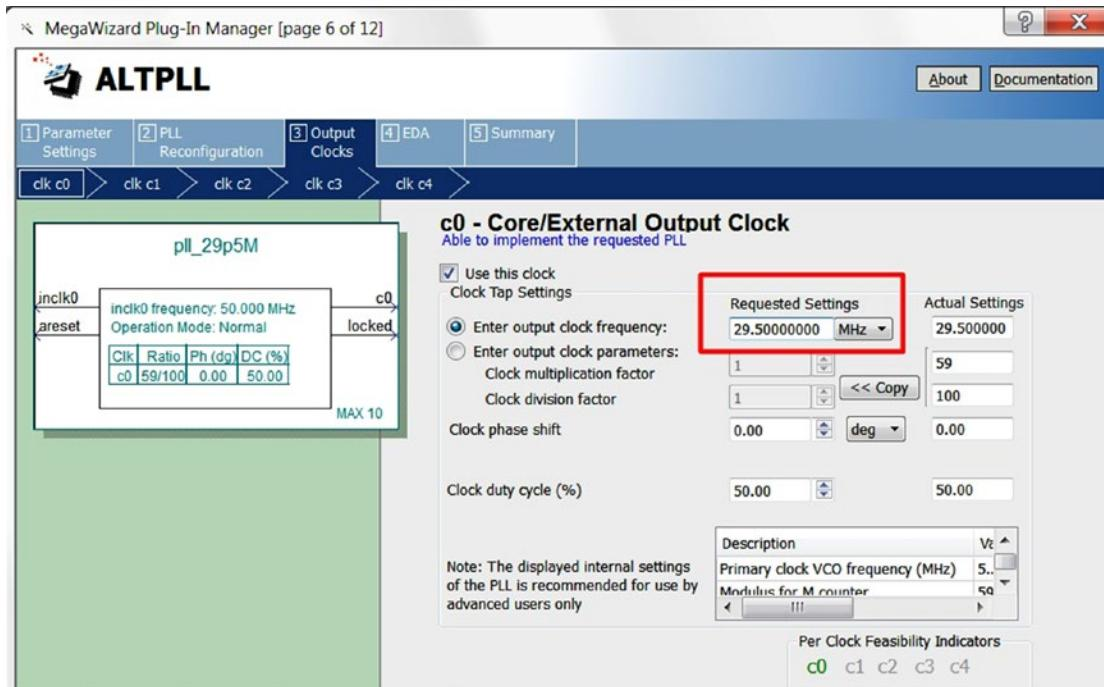

Figure 13-21. Enter output clock frequency equal to 29.5 MHz
3. In the third tab (clk `c0`), enter the output clock frequency request to 29.5 MHz (Figure 13-21).